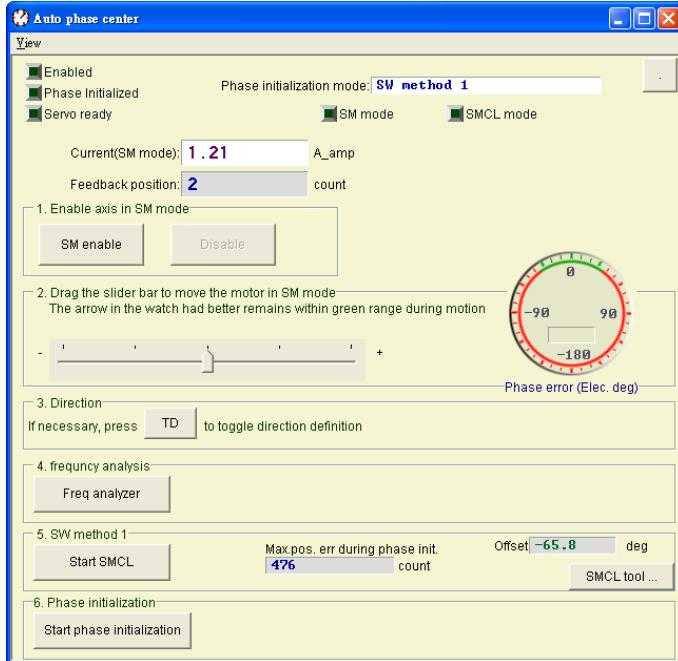
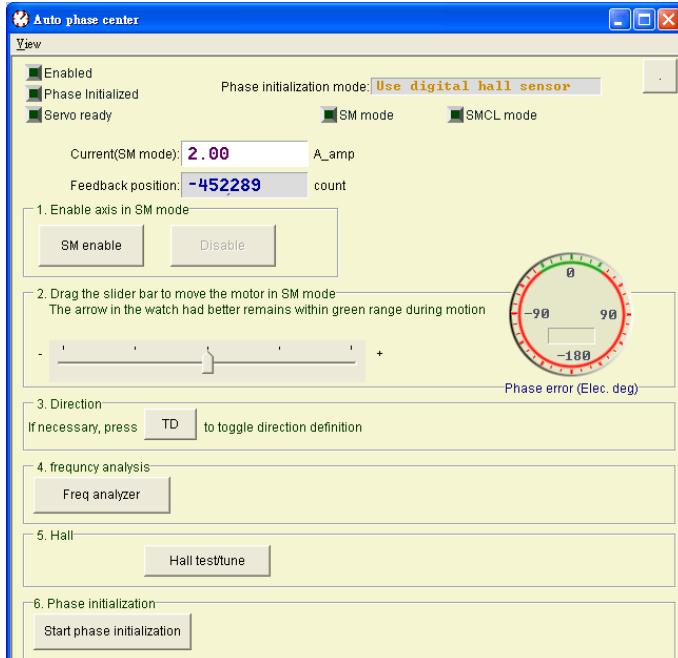

Figure 4-27 Auto phase center without hall sensor
Figure 4-28 Auto phase center with hall sensor
Click the icon  on the tool bar of the main window or select Auto phase center item under pop-up menu Conf/Tune to open auto phase center. Normally Auto phase center for phase initialization looks like Figure 4-27. However when a digital hall sensor is used, it look like Figure 4-28.
- 4.3.2.4 If the hall sensor is not used, please go to 4.3.2.5. In Figure 4-28 step 4, click the Hall test/tune button to tune hall sensor signal while using hall sensor.